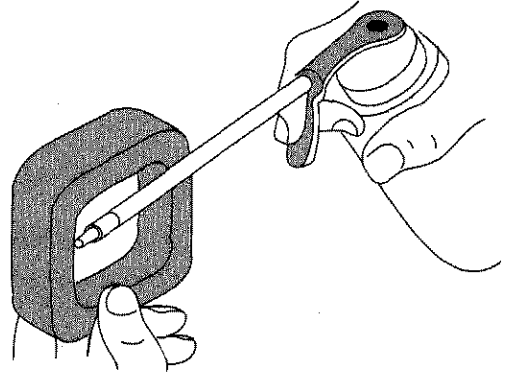

Fig. 27
5. Apply enough clean SAE 30 motor oil to lightly coat the filter (Fig. 27).